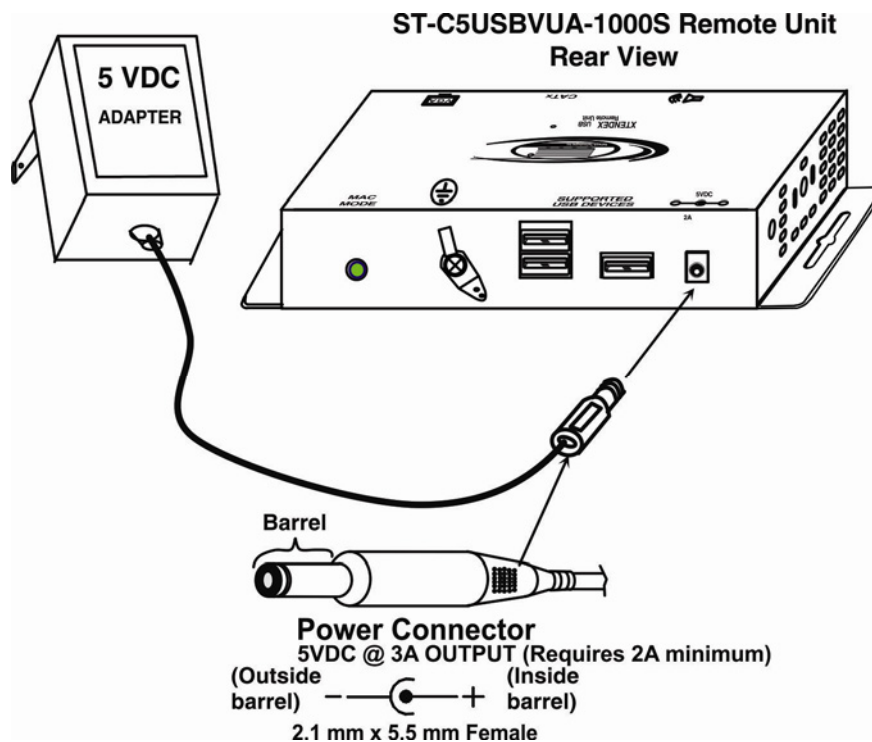

Figure 5- Connect AC adapter to Remote Unit
Connect one AC adapter DC power connector to the 5VDC port on the back of the Local Unit. (AC adapter shown in Figure 5)
2. Connect one AC adapter power connector to the 5VDC port on the back of the Local Unit. (AC adapter shown in Figure 5)